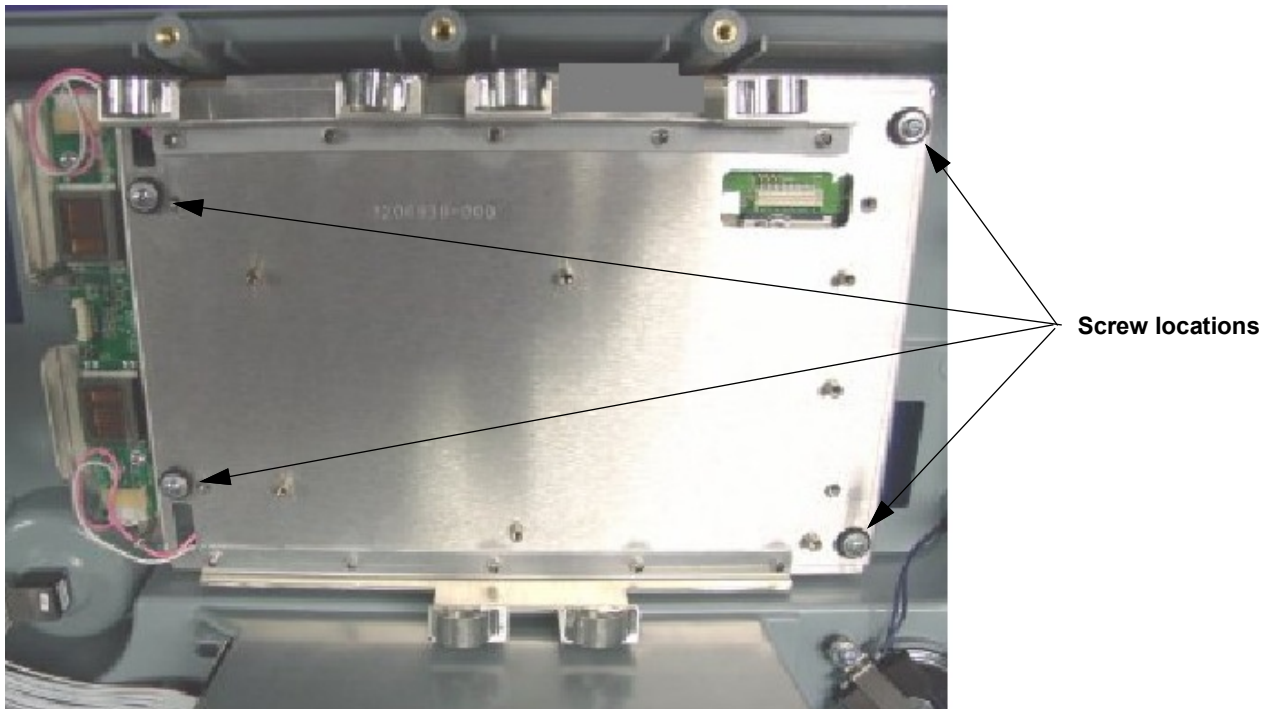

Figure 8.17—LCD display assembly screw locations
4. Remove the four LCD bracket mounting screws (see Figure 8.17 on p. 207). Discard the screws.